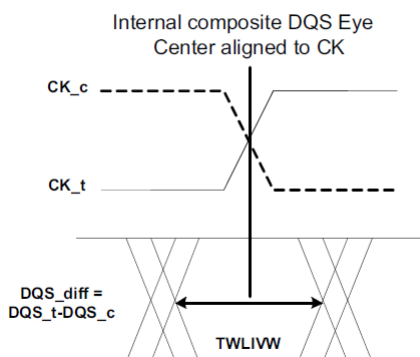

Figure 25. DQS_t/DQS_c to CK_t/CK_c timings at the DRAM pins referenced from the internal latch
- 28) tWLIWW is defined in a similar manner to tdlVW_Total, except that here it is a DQS input valid window with respect to CK. This would need to account for all VT (voltage and temperature) drift terms between CK and DQS within the DRAM that affect the write-leveling input valid window. The DQS input mask for timing with respect to CK is shown in Figure 25. The "total" mask (TWLIWW) defines the time the input signal must not encroach in order for the DQS input to be successfully captured by CK with a BER of lower than tbd. The mask is a receiver property and it is not the valid data-eye.